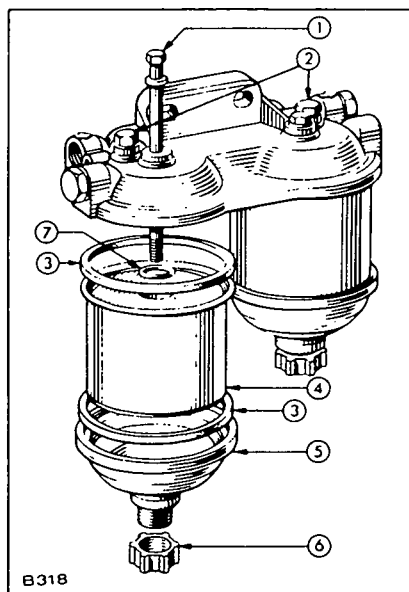

FIGURE 24. FUEL FILTER
1. Open bleed screw on the inlet side of fuel filter. See Figure 24.
4. Open bleed screw on the outlet side of filter. See Figure 24.